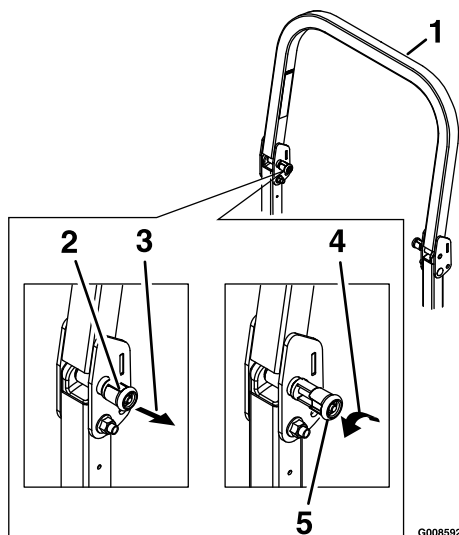

Figure 13
1. The knob must be completely latched with the tabs interlocking as shown in Figure 13 to lock the roll bar in the raised, operate position.